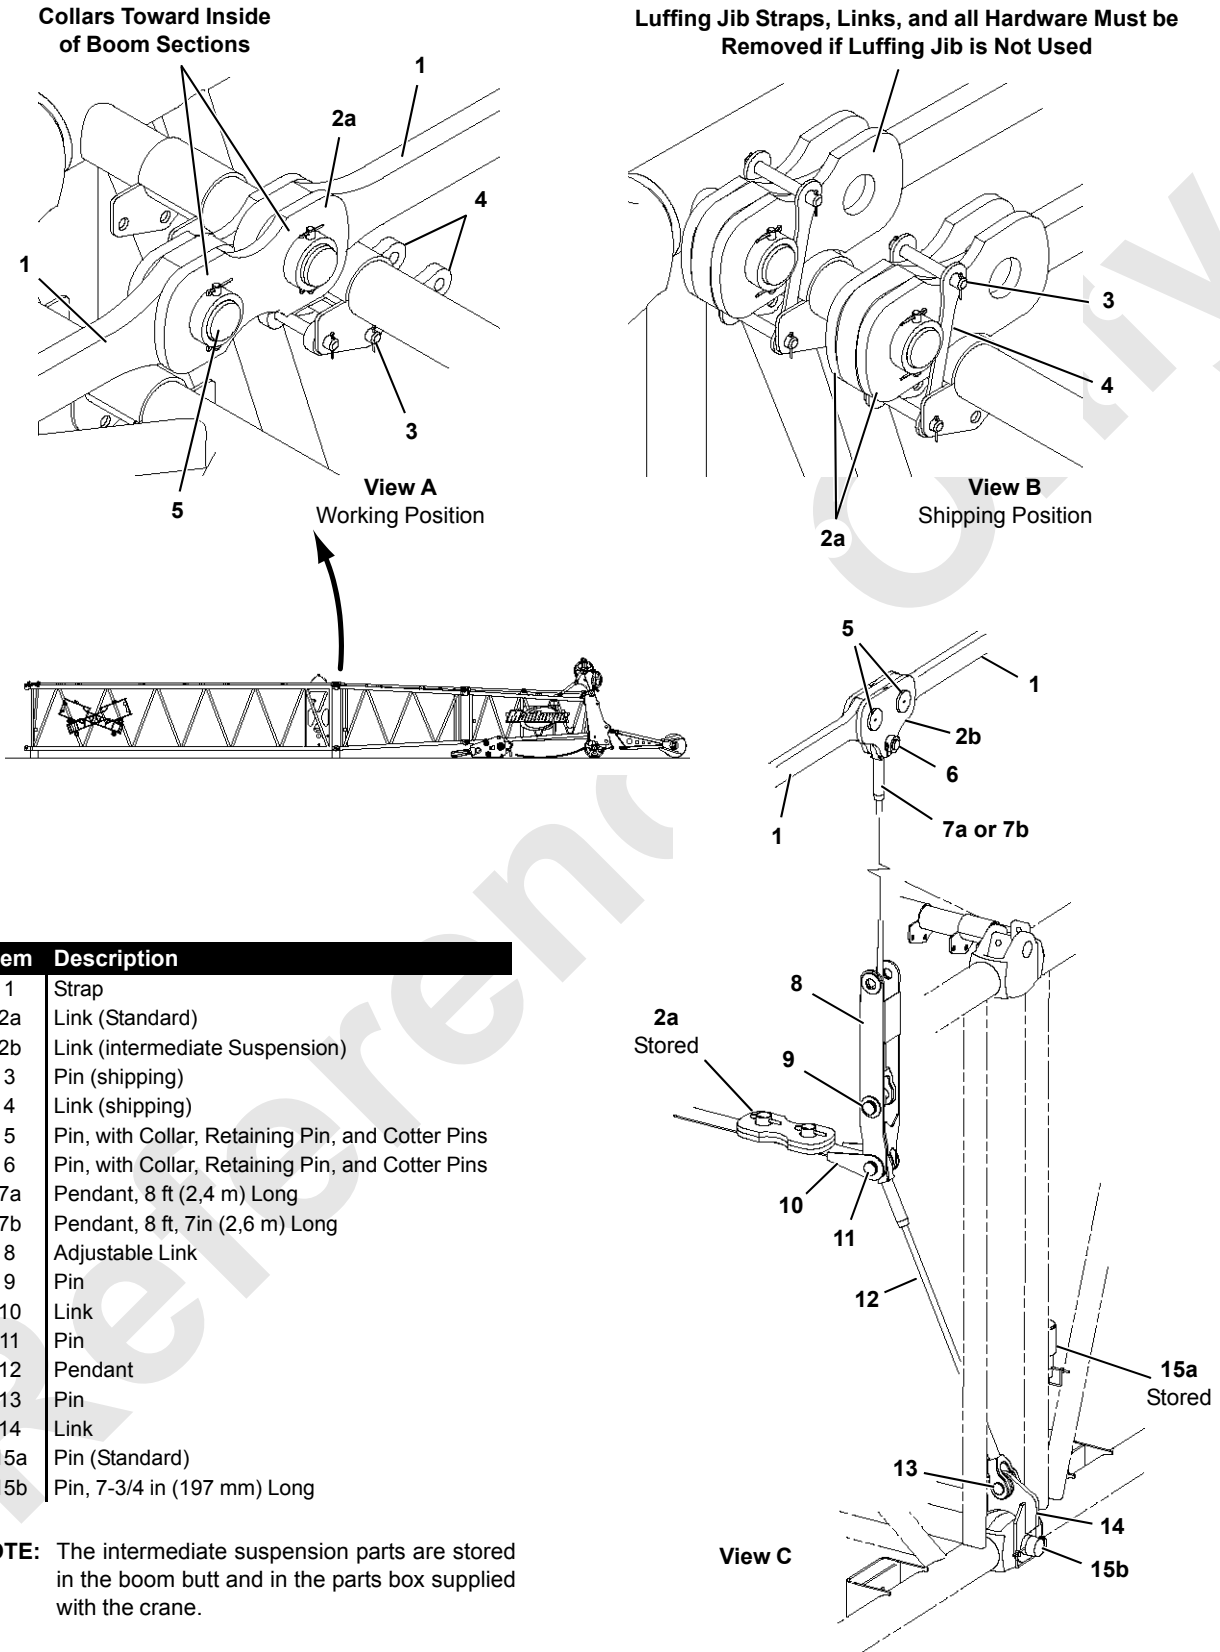

FIGURE 4-29
- b. Support wire rope guide with hoist and remove pin (3) from shipping position.
- c. Raise wire rope guide to operating position and install pin (3).
4. Lift next insert into position and engage fixed horizontal pins (4, View D) in insert with hooked connectors (5) in adjacent insert.
NOTE: If intermediate suspension is required, standard bottom connecting pins (6) are replaced with longer connecting pins and links (see Figure 4-29 and Boom Assembly Drawing).
7. Repeat steps 4 – 6 for each remaining insert (12) and for boom top (14).
See Figure 4-29 for the following procedure.
See Figure 4-29 and Figure 4-30 for the following procedure.